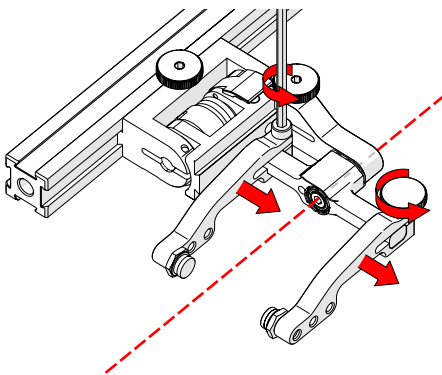

Fig. 69 - Adjust probe holder arms
5. Loosen the arm clamp screw and the probe holder arm adjustment knob (Fig. 69), remove the outer probe holder arm from yoke.
6. Adjust inner probe holder arm as required to best centre the probe on the yoke's pivot axis (Fig. 69).
TIP: The probe holder yoke can accommodate many different probe and wedge sizes of varying widths. It is best to centre the wedge with the yoke's pivot axis to reduce wedge tipping when scanning. Position the inner probe holder arm accordingly with the centre of the yoke (Fig. 69).